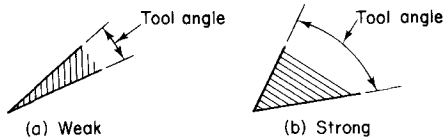

Fig. 4.47 The point or tool angle
**The tool or point angle.** Fig. 4.47 shows two kinds of tool points. The one at (a) is too weak for it to be able to cut metal successfully—the edge would soon crumble away. On the other hand, the tool point at (b) is strong and robust. The greater the tool angle the stronger the tool.
The strong point at Fig. 4.47 (b) needs a great deal of effort to force it through the metal, whilst that at (a) requires considerably less effort. Hence, we always have to compromise between strength and the effort needed for cutting.